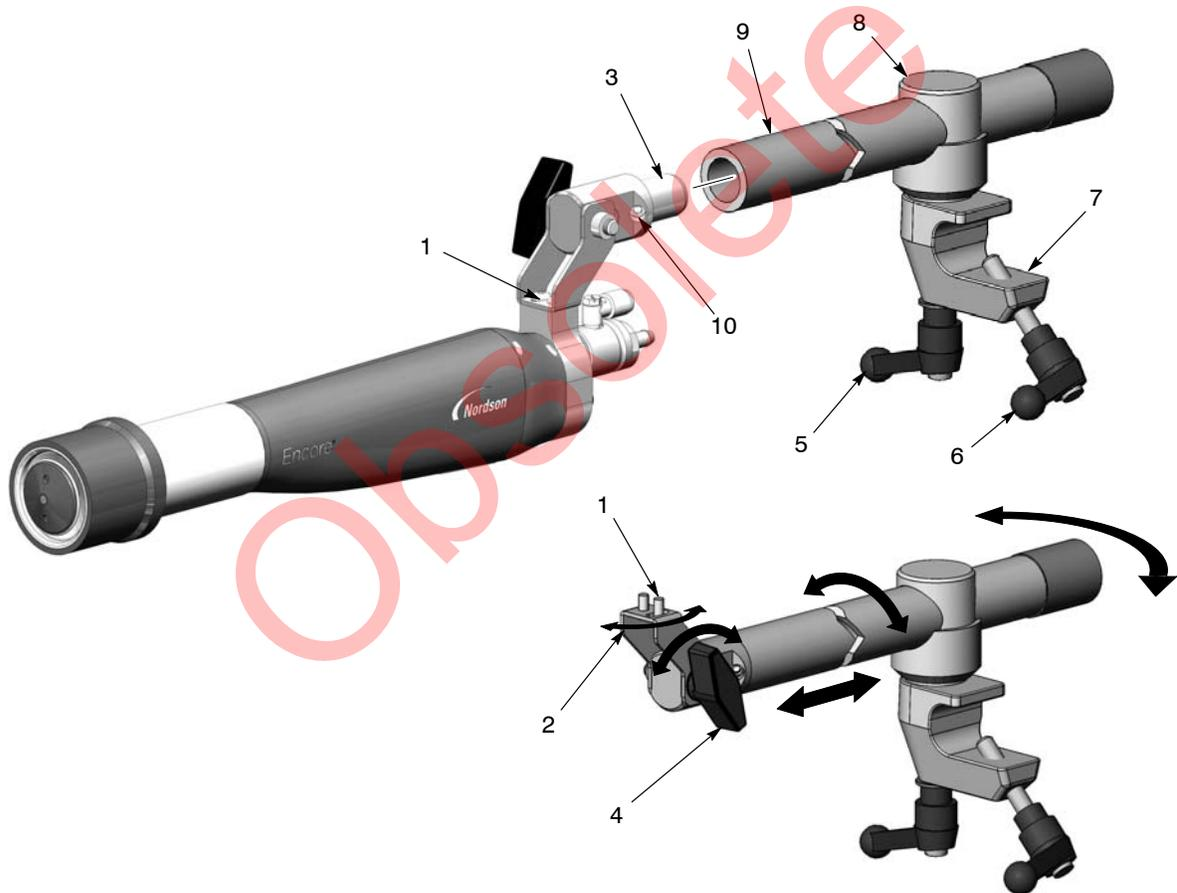
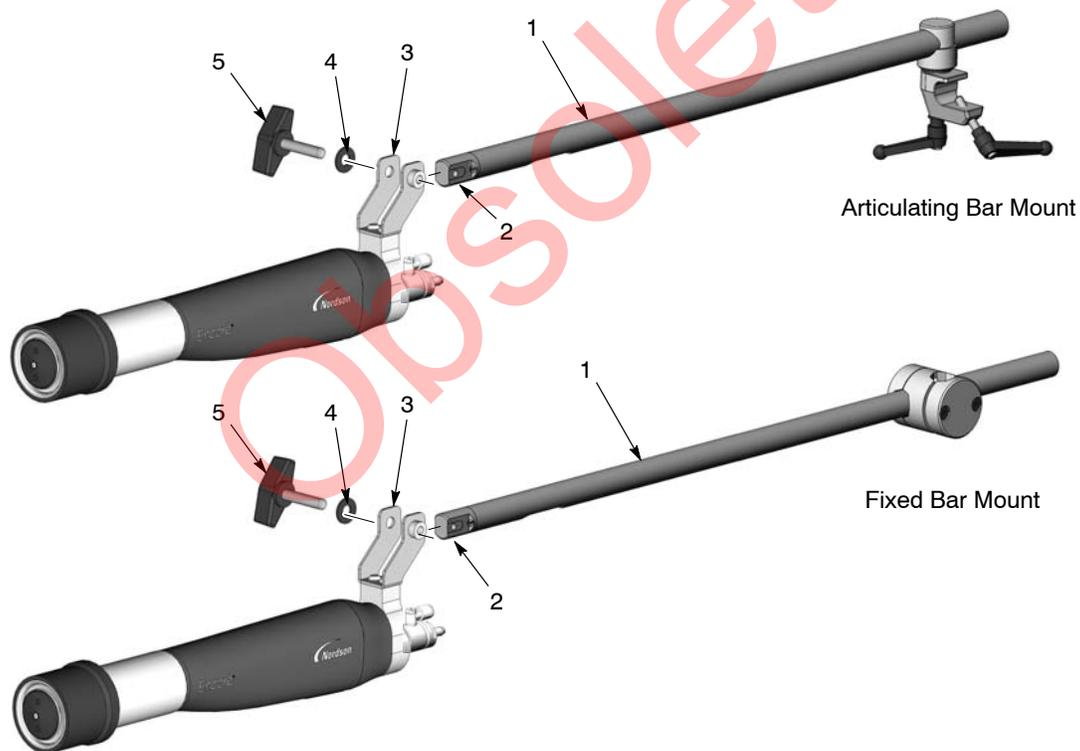
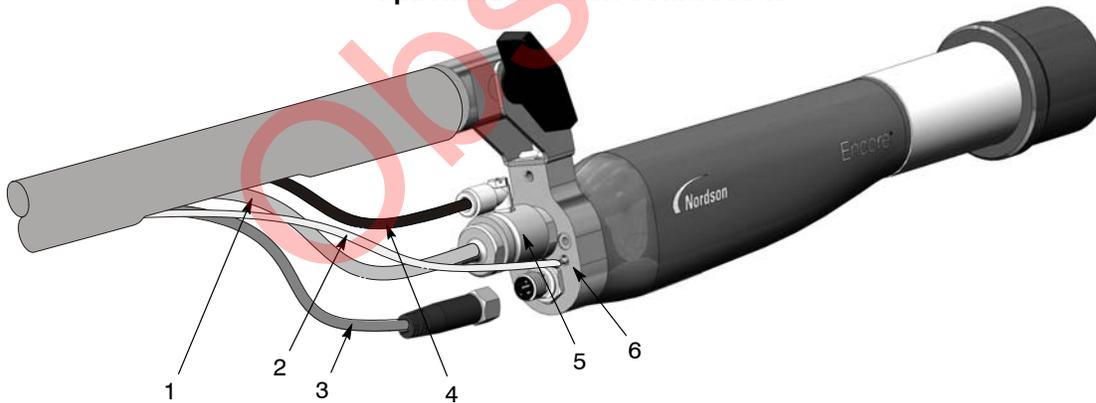

Figure 3-1 Standard Articulated Bar-Mount Gun Mounting
Figure 3-2 Optional Gun Bar Mount Kits
Figure 3-3 Gun Connections – Conical Nozzle Shown
1. See Figure 3-1. Install the tube adapter (3) into the end of the adjusting rod (9) and secure it by tightening the set screw (10) with a 4-mm hex key.
- To move the gun tip from side to side, loosen the right button screw (1).
- To tilt the gun tip up or down, loosen the tilt knob (4).
- To rotate the adjusting rod or slide the adjusting rod forward or back, loosen the locking handle (5).
2. Position the clamp (7) on a 1 inch mounting bar and tighten the clamp handle (6).
3. Bundle the powder hose, 4-mm clear electrode air-wash tubing, and gun cable together and secure them to the adjusting rod with Nordson Velcro straps. Connect them to the spray gun as shown in Figure 3-3.
See Figure 3-2. The optional bar mount kits have large inner diameter adjusting rods (1), through which the powder hose, air tubing, and gun cable can be routed. The tube adapter (2) shipped with the spray gun cannot be used with these kits. It must be exchanged for the tube adapter provided with the kits.
1. Unscrew and remove the knob and washer (5, 4) from the gun mounting bracket (3).
3. Slide the end of the optional tube adapter (2) into the gun mounting bracket and align the hole in the end of the tube adapter with the holes in the gun mounting bracket.
5. See Figure 3-3. Pull (in the following order) the gun cable, 4-mm clear electrode air-wash tubing, and powder hose through the end mounting tube and out the cutout. Connect them to the spray gun as shown in Figure 3-3.
See Figure 3-3.